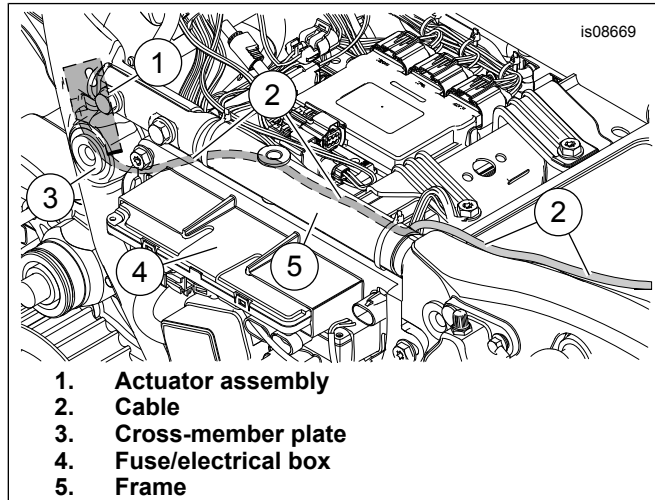

Figure 10. Cable Routing
17. See Figure 10. Route the cable (2) under cross-member.
18. Continue routing cable (2) between fuse/electrical box (4) and frame (5) to the top of the rear fender and to the backrest bracket.